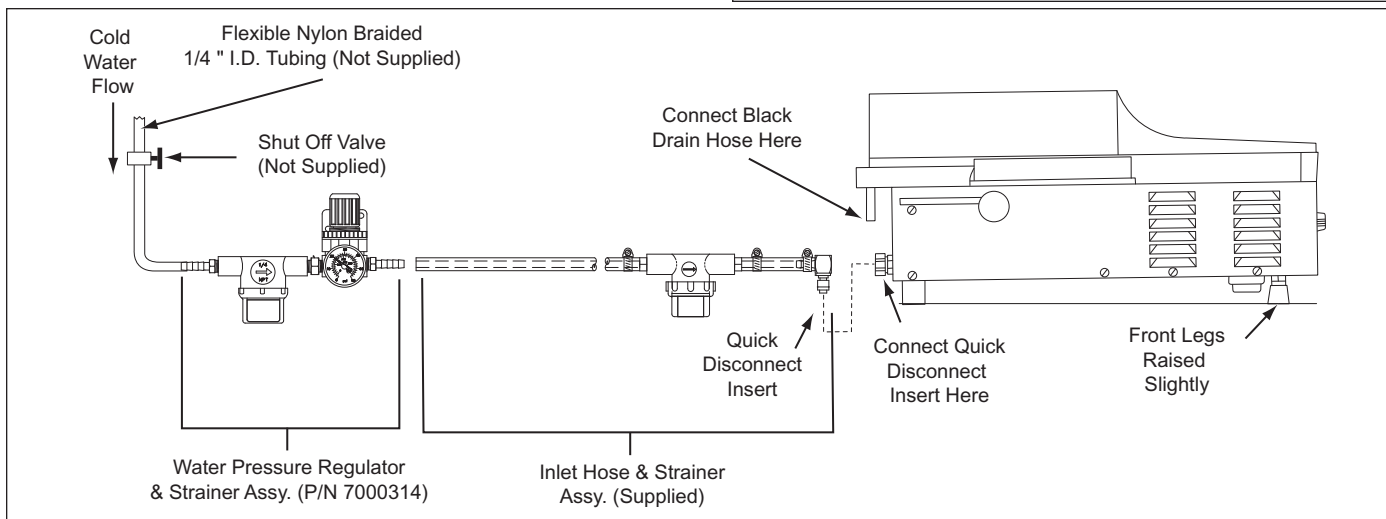

Figure 2. Connecting Water Supply
- Raise the front legs so the unit is tilted slightly to the rear (Figure 2).
This unit requires a direct water hookup. A Water Inlet Hose and Strainer Assembly (Figure 2) are supplied.
1. Turn off the water valve (not supplied) that provides water to the unit (Figure 2).
2. Connect the 1/4" (6.5 mm) I.D. flexible tubing to the outlet side of the Water Pressure Regulator and secure with the Worm Clamp as shown in Figure 2.
NOTE: A Water Pressure Regulator (P/N 7000314) must first be installed as shown in Figure 2. Failure to do so will result in poor steaming and possible flooding.
5. Push the Quick Disconnect insert into the fitting at the rear of the unit until it "clicks." (Figure 2).
6. Connect the black drain hose to the drip tray as shown in Figure 2. Place the other end of the drain hose in a drain or collection pan.